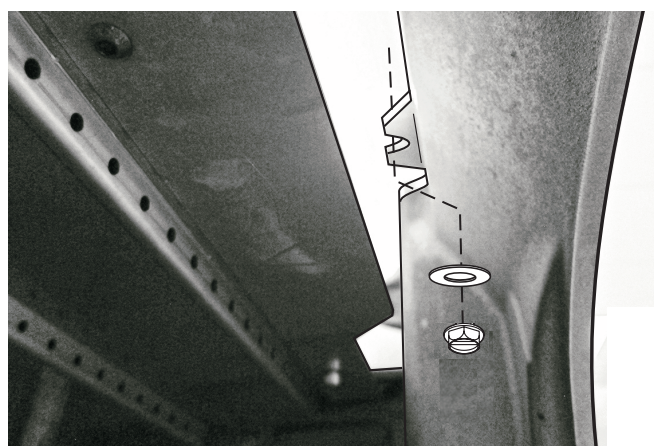

Fig. 6.3. Remove both top plate nuts located inside the front door opening.
The combustor components are accessed by removal of the top plate which is secured to the front plate by two M6 flange nuts with M6 fender washers, figure 6.3, and two M6x40 set screws which are secured through the left and right sides.
1. Use the 10mm socket wrench with extension to remove the two top plate M6 flange nuts with M6 fender washers located behind the front plate inside the stove as in figure 6.3.